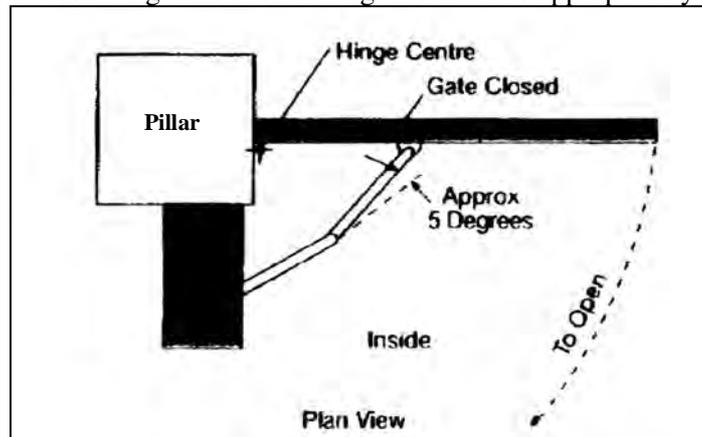

Figure 4: Arm position when gate closed
- The gate bracket should be positioned so that the arms are almost in a straight line when the gates are closed (Figure 4) To check the location of the gate brackets, first disengage the main arm from the drive shaft (using the spanner provided), unscrew the bolt until the arm swings freely. Clamp the gate bracket in position. Open and close the gate to ensure the gate bracket is appropriately located.